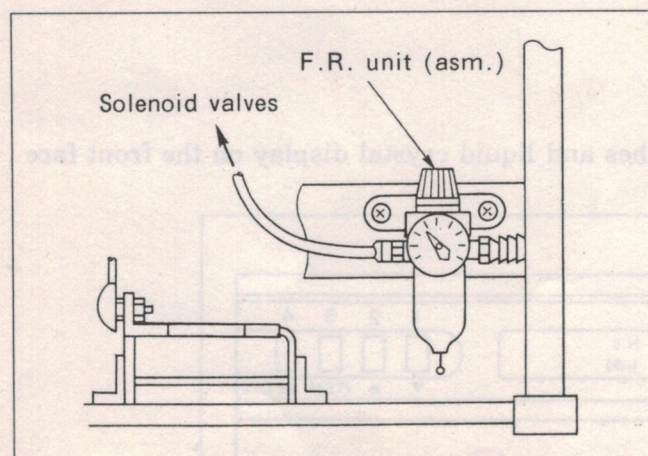

Fig. 2
- (2) Attach the F.R. unit (asm.) [air regulator] to the rear side of the leg of the table. (Fig. 2)